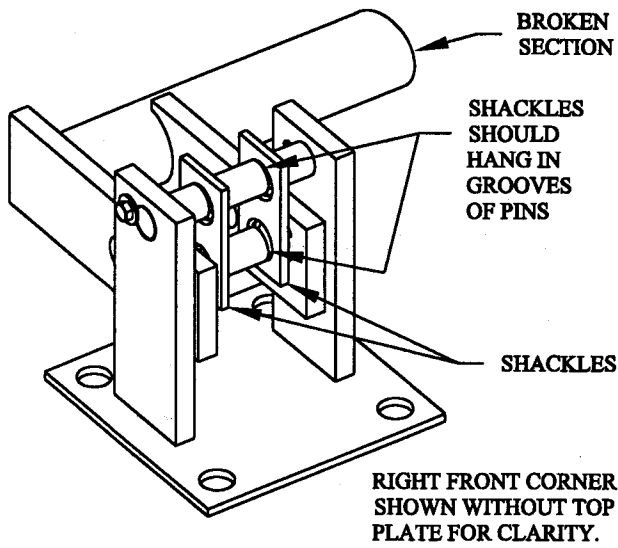
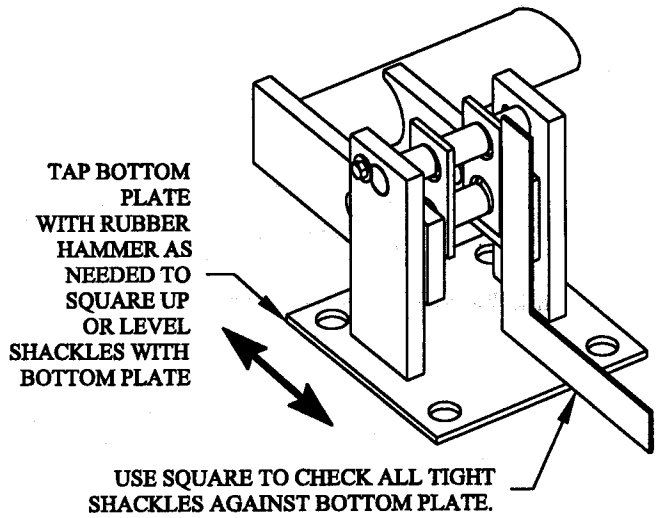

FIG. 15A
FIG. 15B
STEP 15. Check that each shackle is hanging properly in the grooves of the pins. See Fig. 15A. Usually in each corner one shackle will be tight and one loose (sometimes both are tight, this is okay). Place a square against the tight shackles and bottom plate. If shackle isn't square, lightly tap edge of bottom plate until it is squared up. See Fig. 15B.